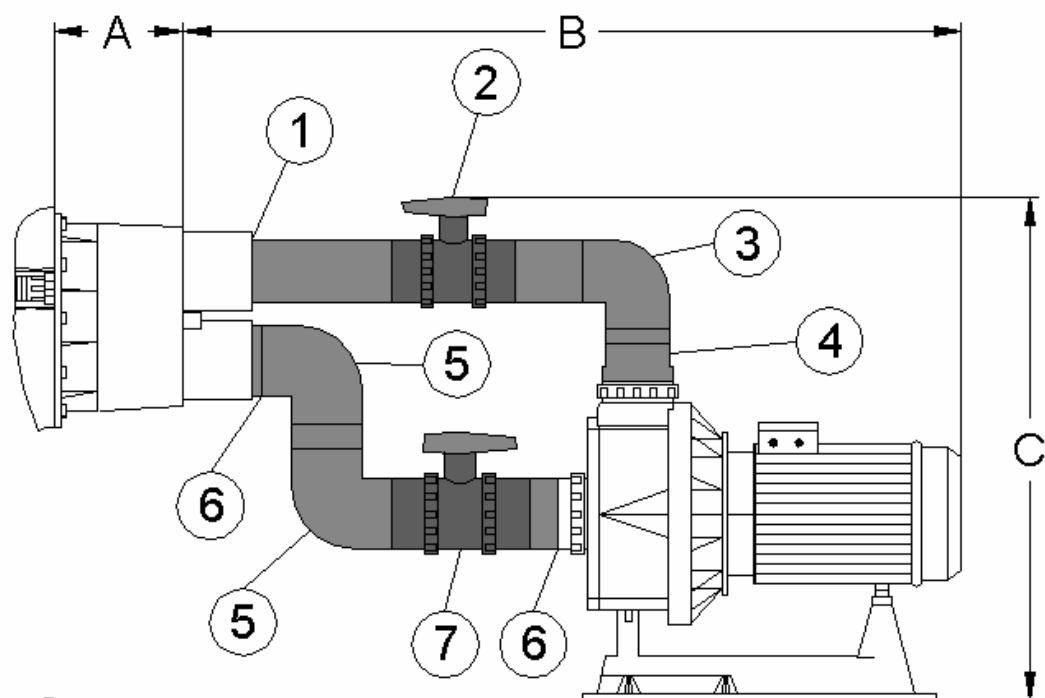

Fig. 6
-Glue the 75x63mm. Reducing bush (nº1 fig 6) to the discharge mouth of the niche (see fig. 6).
-Glue a Ø63mm. Pipe* in the reducing bush (nº1 fig 6).
-Glue the Ø63mm valve (nº2, fig 6) to the Ø63mm. Pipe*
-Glue a Ø63mm pipe* to the Ø63mm. Pipe (nº2 fig 6).
-Glue the Ø63mm elbow (nº3, fig 6) to the Ø63mm. Pipe*.
-Glue a Ø63mm. Pipe* to the elbow (nº3 fig 6).
-Glue a 90/75/63mm conical reducer (nº4 fig 6) to the Ø63mm pipe* and the Ø90mm.connector on the pump.
-Glue the 90x75mm reducing bush (nº6 fig6) in the suction mouth of the niche (see fig.6).
-Using a Ø75mm pipe * glue a Ø75mm elbow (nº5 fig 6) on the reducing bush (nº6 fig 6).
-Using a Ø75mm. Pipe* join the other Ø75mm. Elbow (nº5 fig6) to the elbow already glued (see fig.6).
-Glue the Ø75mm valve (nº7 fig 6) to the elbow (nº5 fig6) using a Ø75mm pipe* to join them.
-Glue a Ø75mm pipe* to the valve (nº7 fig 6).
-Glue a 90x75mm. Reducing bush (nº6,fig.6) to the Ø75mm pipe* and the Ø90mm. Connector on the pump.